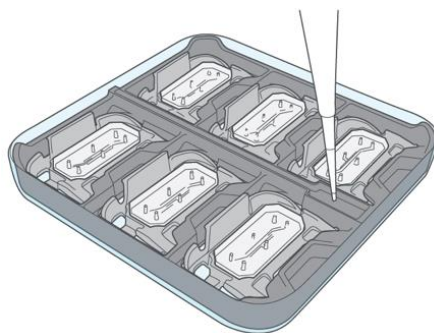

Figure 4. Fill central reservoir of Chip Cradle with 0.75 mL of DPBS
7. To prevent evaporation during incubation, fill central reservoir with 0.75 mL of DPBS (See Figure 4) and place lid onto 120 mm square dish and incubate overnight at 37°C and 5% CO_2 .